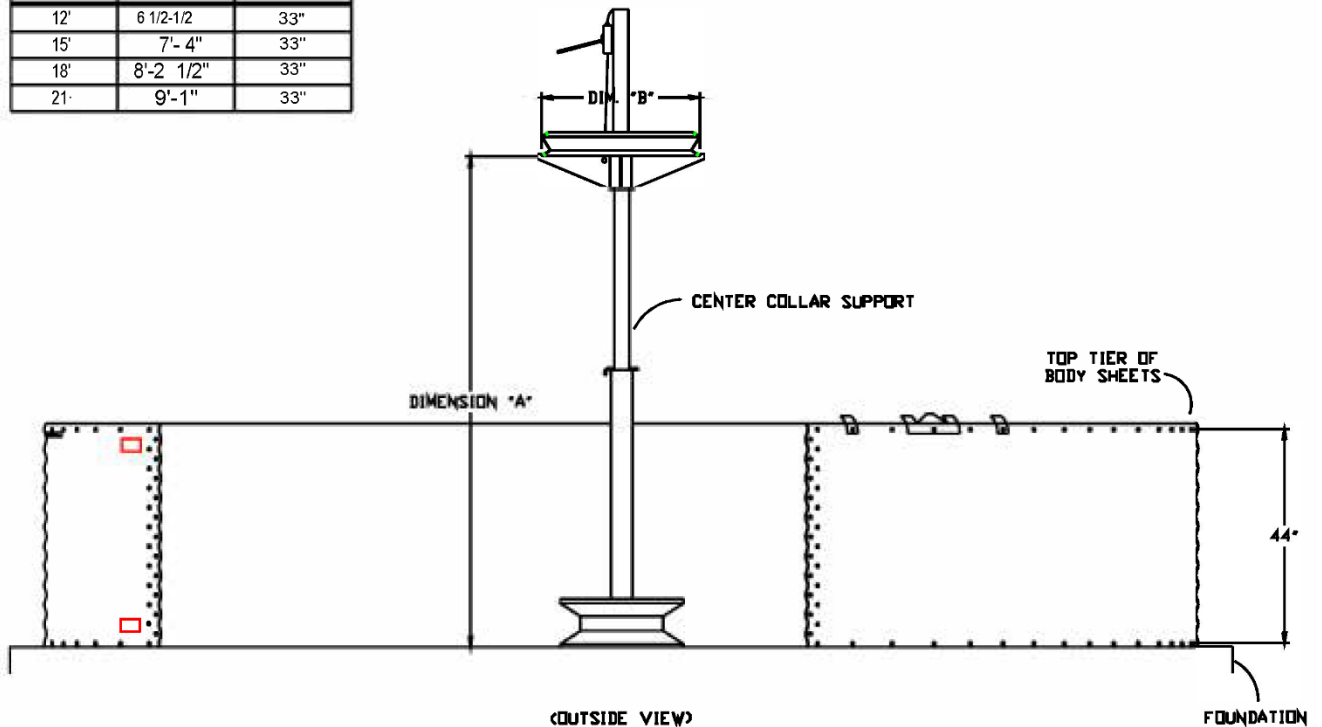

Figure 4-14: Center Support and Top Tier of Side Panels
3. Place the center collar support in the center of the foundation adjust to comply with dimension A & B in Fig. 4-14. See Fig. 4-14.